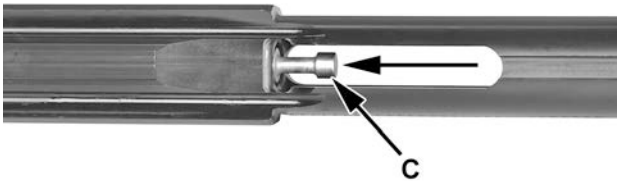

Figure 39
4. Insert the firing pin (C) through the rear of the bolt carrier assembly. See figure 39.